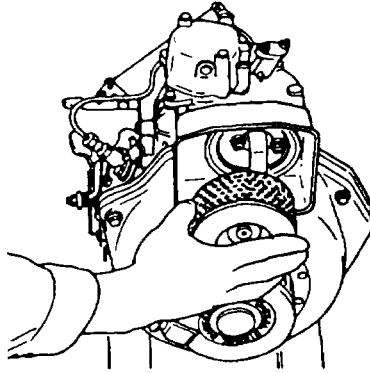

Figure 6-3 Removing the air cleaner
- 3) Remove the cleaner case (see Figure 6-3).